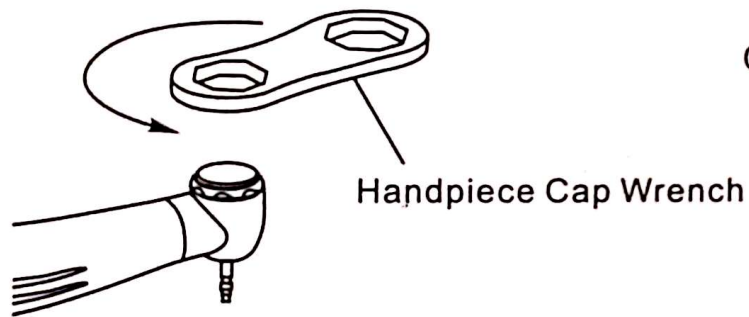

Figure5
(1) Take out the original shaft core.
- ① Mount on a testing bur.
- ② The handpiece cap wrench is mounted to get the handpiece cap stuck. The handpiece cap can be dismantled by clockwise rotation. (Figure 5)
- ③ After handpiece cap is demounted, press the testing bur to take out the shaft core.